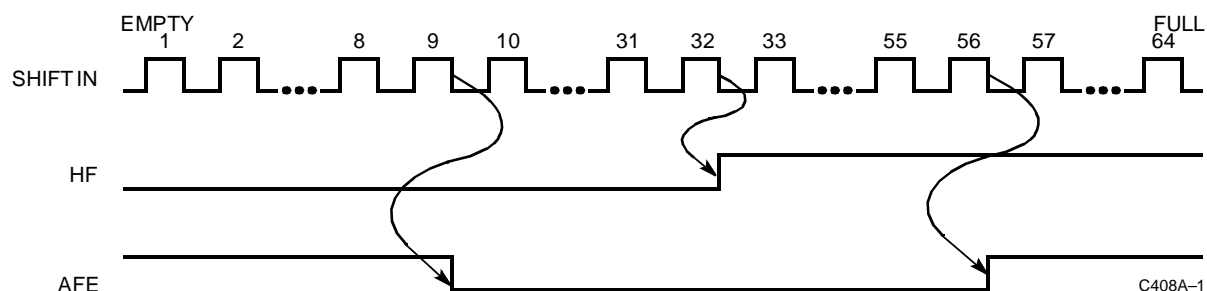

Figure 1. Shifting Words In.
Two flags, almost full/almost empty (AFE) and half full (HF), describe how many words are stored in the FIFO. AFE is HIGH when there are 8 or fewer or 56 or more words stored in the FIFO. Otherwise the AFE flag is LOW. HF is HIGH when there are 32 or more words stored in the FIFO, otherwise the HF flag is LOW. Flag transitions occur relative to the falling edges of SI and SO (*Figures 1 and 2*).